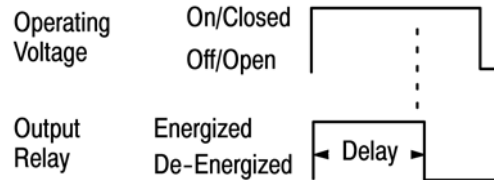

Figure 5
6.3. Type 3: Interval (Figure 5)